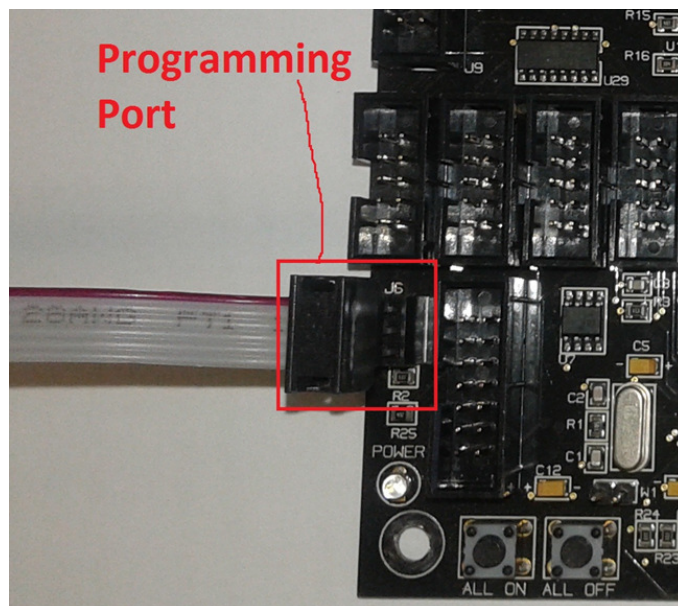

Figure 3
- 2) Plug the 6-pin male header from the PE micro flash programmer into the programming port on your board. Align the Red wire on the programmer to pin-1 on the programming port. For a LightLEEDer controller board (97013490) the red line on the cable should be on the top with the wire running to the left, see Figure 3.